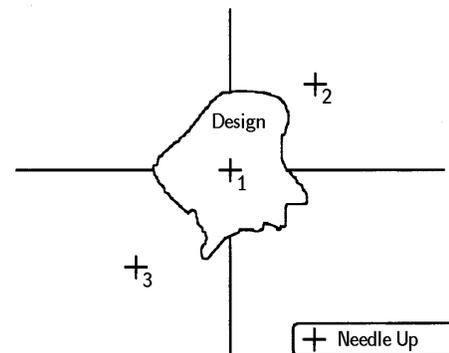

Figure 1-17
1. The first dataset after Start Design in any Premier/Stellar design should be a needle up at the origin (0, 0 coordinates). See item 1 in Figure 1-17.
2. The next dataset should be a needle up defining the upper right (most positive coordinates) of the design. See item 2 in Figure 1-17.
3. A third dataset should be a needle up defining the lower left (most negative coordinates) of the design. See item 3 in Figure 1-17.